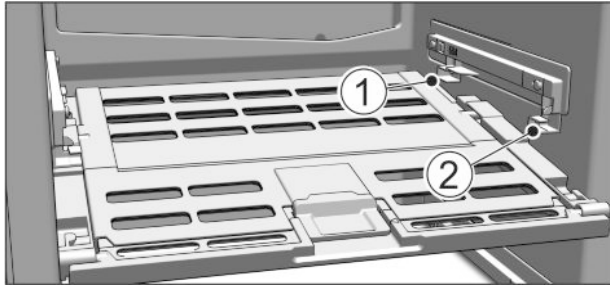

Fig. 50
- ▶ Replacing the Fruit & Vegetable safe cover: Guide the ridges on the cover into the rear brackets Fig. 50 (1) and click it into the front bracket Fig. 50 (2).